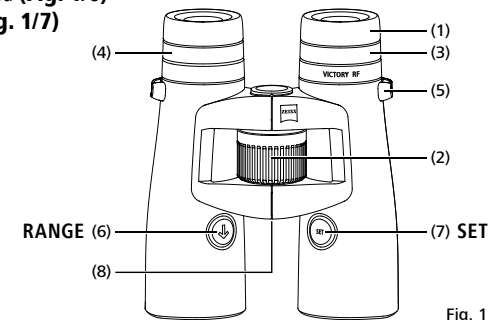

Fig. 1
Simply release the range-finding button (Fig. 1/6) on the appropriate setting for you. The last display setting shown will then be saved. To check, you can always display the saved settings in the menu.
The distance can be measured in either meters or yards. You can change the settings with the range-finding button (Fig. 1/6). On your ZEISS Victory RF, the units have the indicators unit **M** (for meters) and unit **Y** (for yards). To check, you can always display the saved settings in the menu.
You can select the preferred measuring mode in Menu 5 (See Table 1; press the SET button for 2 seconds + press the SET button four times). You can select whether you are shown the best measurement (**tA b**) or the furthest measurement (**tA L**). You can change the settings with the range-finding button (Fig. 1/6).
The user can configure/reverse the two control buttons, one referred to as the RANGE button and the other referred to as the SET button (See Fig. 1/6 and 1/7). This reconfiguration would allow the user to operate the rangefinder in their preferred layout for the intended field application (e.g., left- or right-hand preference and/or single-handed bow hunting scenario).
You can select the most appropriate button configuration for yourself in Menu 6 (See Table 1; press the SET button for 2 seconds + press the SET button five times). By pressing the range-finding button (Fig. 1/6), you can choose between the standard setting, displayed as („5 \_ \_ °”), or the reverse setting, displayed as („° \_ \_ 5”).
**RANGE** = Right hand (Fig. 1/6)
**SET** = Left hand (Fig. 1/7)